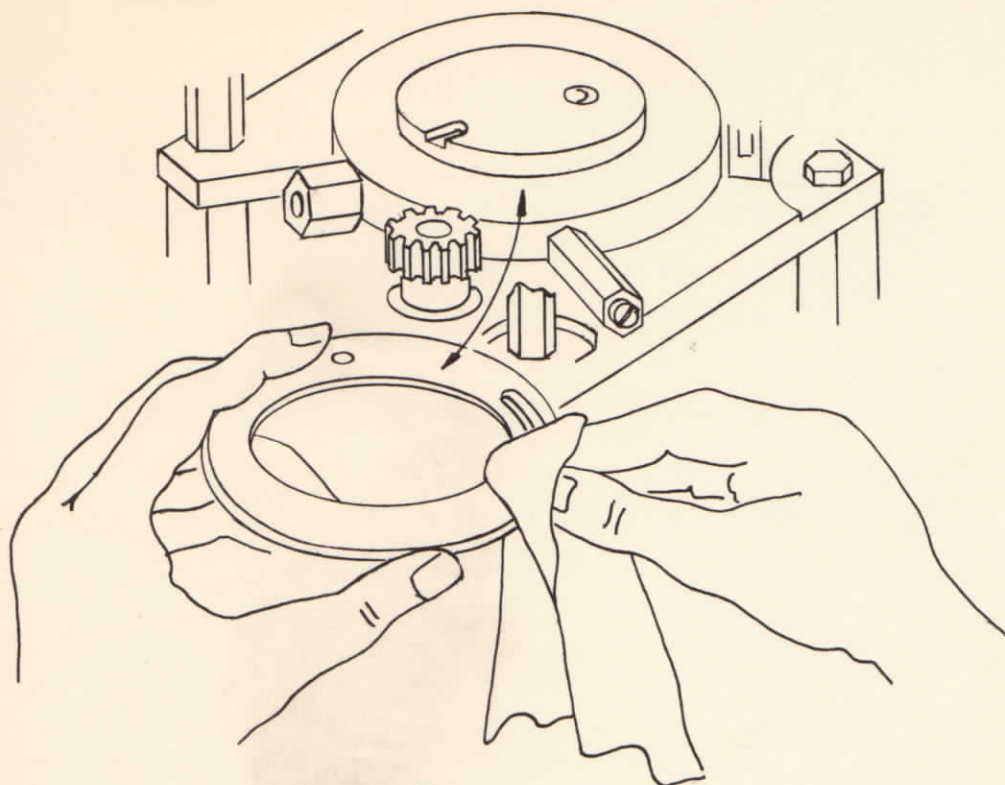

Figure 9
6. Remove ^{NYLON} ~~copper~~ air seal washer and wipe clean along with the top of the cylinder and both sides of the shot gear. Take care not to wipe off gear tooth mark you made. (See Figure 9)